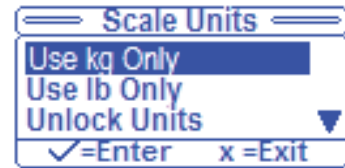

Figure 41
2. The Scale Units Screen will display Figure 41 with the current state as the highlighted item.